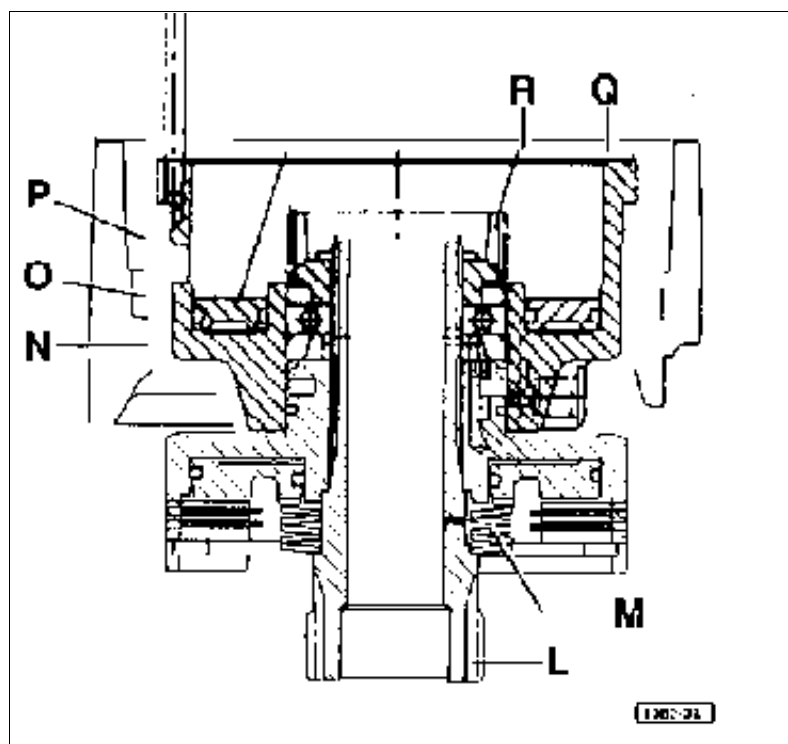

Fig. 9 - Preassembly of parts on MEDIUM shaft.
- Working at the bench, preassemble the MEDIUM shaft **L** p/n 007.6149.0/20 and the belleville discs **M** p/n 007.6149.0 (Fig 9).
- Fit the unit to the MEDIUM shaft, while holding the shaft vertical (Fig 9).
- Fit the oil baffle **O**, the bearing **P** and the circlip **Q** (Fig 9).